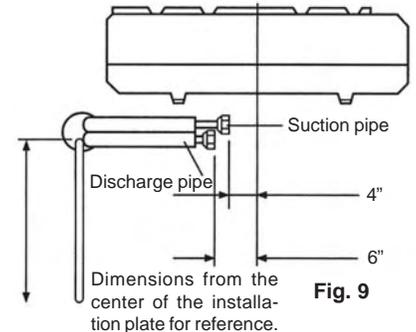

Fig. 9
1. Regarding the left rear sided and left sided piping, the pipes must be connected indoors and must be adjusted to the actual installing length. Keep these pipes unrolled (See Fig. 9 and Fig. 10)